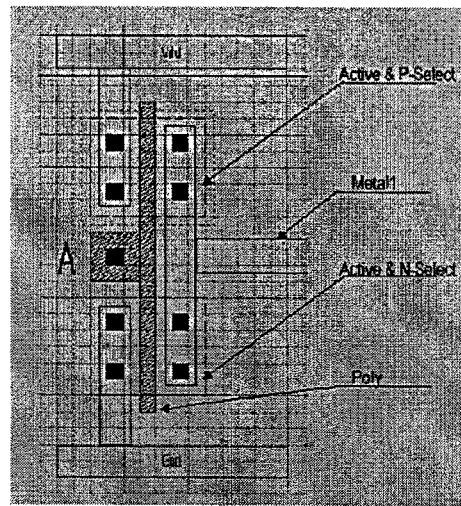

Figure 1
- (b) Calculate the output-rising and output-falling gate delays for circuit in (a) driving an identical circuit. (See figure 1)